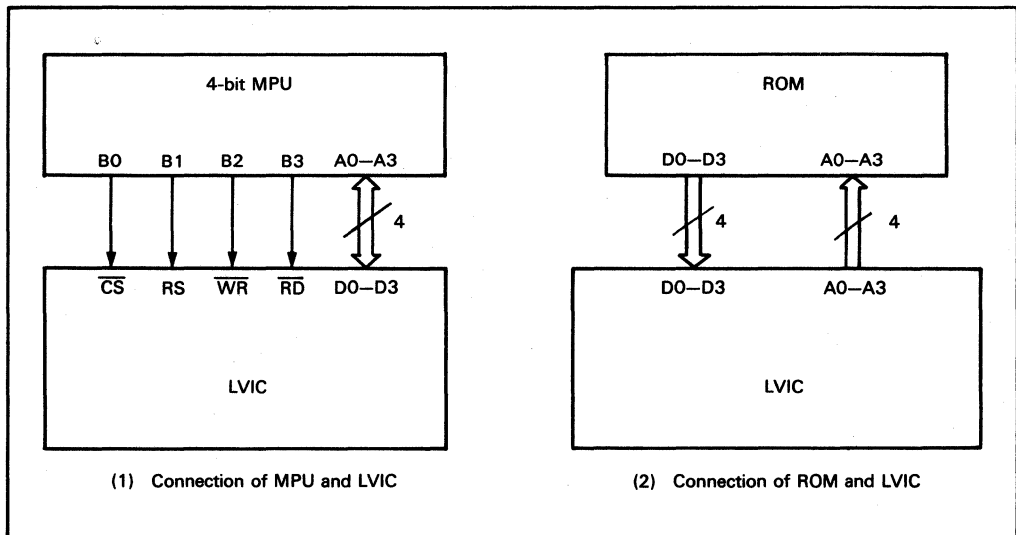

Figure 3 Connection of MPU or ROM and LVIC
Internal Register Programming Method: In the internal register programming method, an MPU or ROM writes data into internal registers to control functions. Figure 3 illustrates the connections of MPU or ROM and the LVIC. Figure 3 (1) is an example of using a 4-bit microprocessor, but since the LVIC's MPU bus is compatible with the 4-MHz 80-family controller bus, it can also be connected directly with the bus of host MPU.